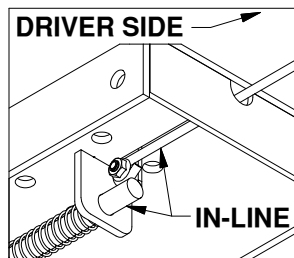

Figure E2:
2. **Secure the handle.** Secure the handle to the pin with the 5/16" X 3/4" carriage bolt and 5/16" locking flange, see Figure E2. Note: The included 5/16" cap screw can replace the carriage bolt if wrench access on the "cab side" of the handle is limited. Tighten the nut until it is secure. Do not over-tighten and deform the handle eyelet.